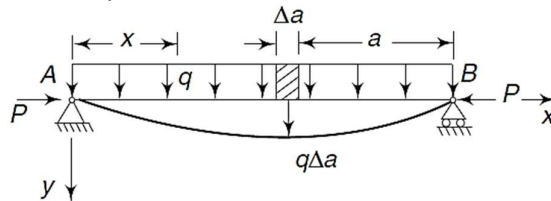

Fig 1
- Q.2 A prismatic beam of length L, flexural rigidity EI, and subjected to an axial compressive force P, is also loaded laterally with a uniform load q per unit length as shown in Fig 1. Given that the general differential equation for a beam-column is known, outline the systematic steps needed to find the most simplified expression for the lateral deflection y(x) for this beam. Include the form of complementary and particular solutions, discuss the impact of boundary conditions, and explain any special considerations for instability due to the axial load. [10] 2 3